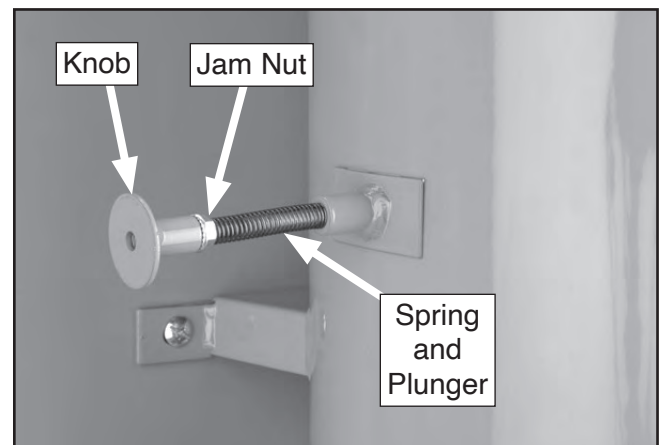

Figure 12. Canister plunger.
- Place spring on plunger shaft, and thread jam nut and knob onto plunger, as shown in (see **Figure 12**).